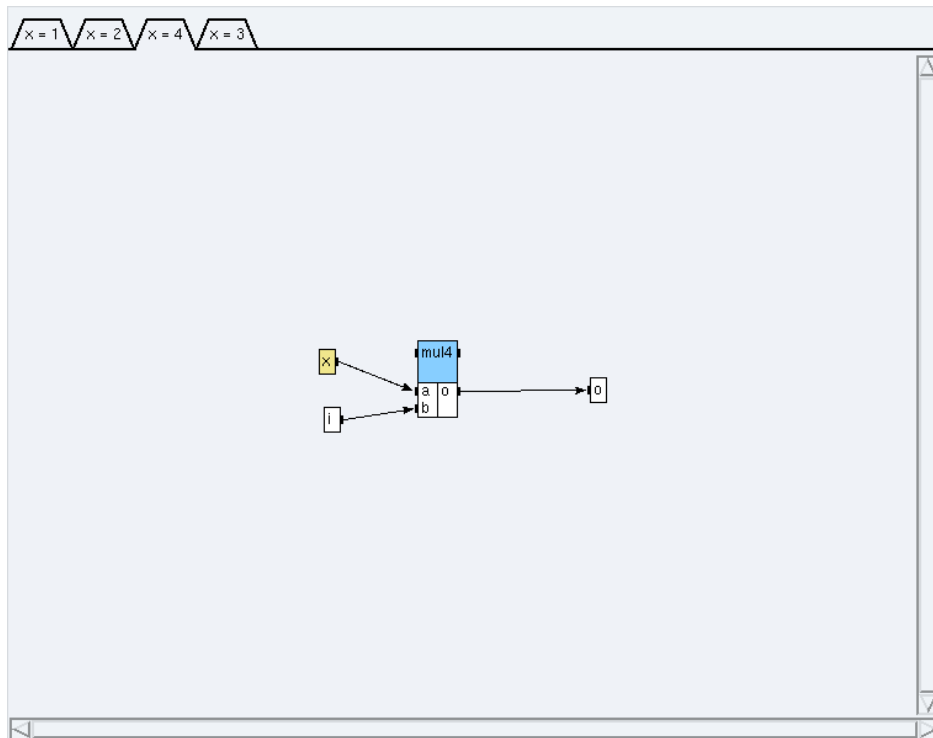

Figure 5.5: Condition  $x=4$
- \* click on the condition **x=4** (*cf.* figure 5.5) and create a reference `mul4<1>` to the definition `int/Arit_mul`;